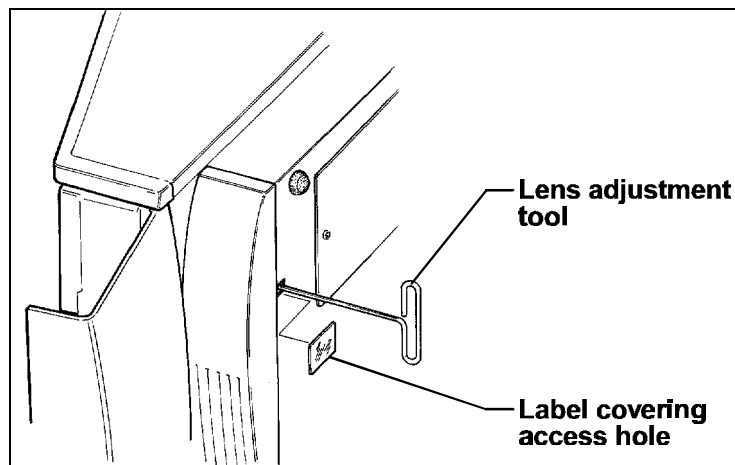

Figure 5-37. Inserting the lens adjusting tool
7. Insert the camera focus adjusting tool through the adjusting port under the ProPalette unit and into the camera lens (Figure 5-37).